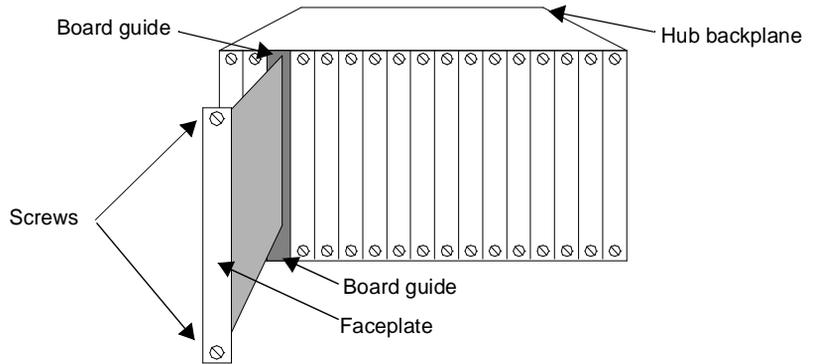

Figure 2-4 Installing the Edge Router Module in an ONline Hub
- 4 Using your fingers, tighten the two spring-loaded screws on the front of the module faceplate (Figure 2-4). Do not overtighten.